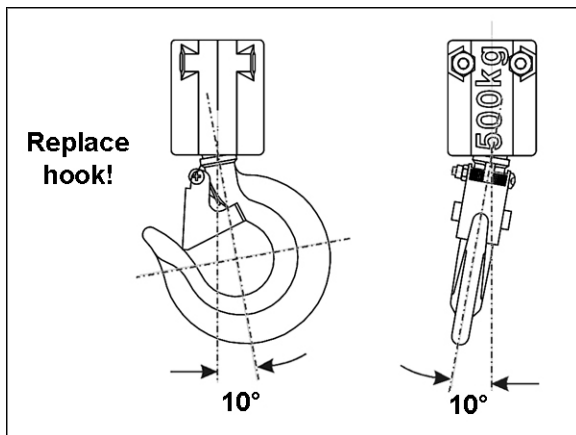

Figure 10
2. The vertical angle at the neck of the hook reaches  $10^\circ$  (see Figure 10).